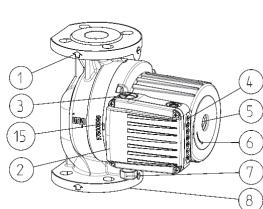
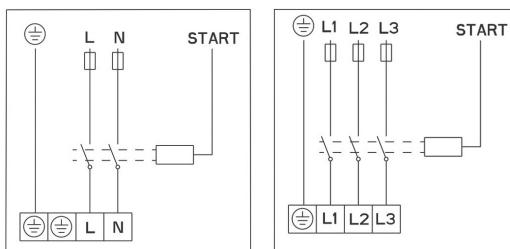

Fig.1
Fig. 3
- The pump should be incorporated into piping system with the pump axis 1-1 in horizontal position (Fig. 3).
- Direction of water flow through the pump should match with direction, indicated by an arrow on the pump casing (Fig.1-POS.1).
- The connecting flanges are designed for nominal pressure NP 6/10 (Fig.1 – POS.8).
- GHN (basic, auto), GHNM (basic, auto) pumps have a single hydraulic casing (Fig.1 – POS.8).
The hydraulic casing of the pump can be insulated only to the cleft between the motor and the hydraulic casing. Openings for condensate drainage should remain uncovered and enable the drainage from the stator housing. Similarly, the same openings must be uncovered also in heating systems, when only thermal insulation of hydraulic casing is implemented (Fig. 1, 2, POS. 15). Electric motor casing, on which the openings for condensate drainage are located, under no condition should not be insulated!
The connecting wire has to be connected over a cable entry M20 (Fig.1 – POS.7).
Electrical connections of the pump must be carried out in accordance with the wiring diagram (Fig. 3), attached on the bottom of motor cover. Before doing that unwind the upper cover (Fig. 1 - POS. 2).
In the pumps of types GHN (basic auto), GHND (basic, auto), GHNMD (basic, auto), GHNMD (basic, auto) the rotor is submerged and provided with special water-lubricated bearings. Before putting the pump into operation, it has to be filled with water and deaerated. Degaerate the pump by unscrewing a screw on the back side of the electric motor (Fig.1-POS.5). Air will flow out through the cleft between the motor shaft and the bearing. When water starts to flow out, close the valves at both the suction and pressure side of the pump. Start the pump and check the direction of shaft rotation. In case of a wrong direction a built-in flash lamp will start to blink with red light.
Each pump is able to cover the areas of three hydraulic characteristics. To achieve this, it has an inbuilt electric motor with three different revolution speeds. For achieving the selected characteristics or speeds ① ② ③, the pump has a push button S (Fig.1-POS. 4), with which we change speeds.
Switch off the pump, close the valve on both pressure and suction sides of the pump, unscrew the vent for deaeration, place the screwdriver (Fig.1-POS.5) in the notch on the shaft and twist as longer as friction forces allow. Then screw the vent for deaeration.